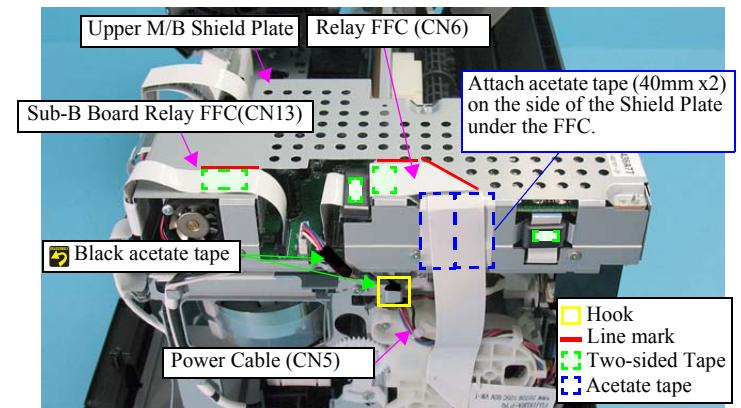

Figure 4-59. Routing Cables around the Main Board. Unit (2)
- Two portions where secured with the hooks on Main Board. See Figure 4-59.